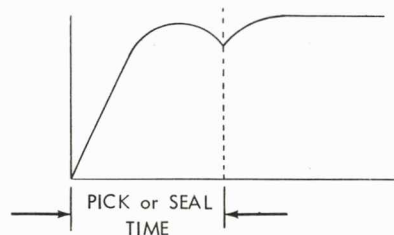

FIGURE 13. Waveform of Magnet Pick Time
1. Check the pick times of all magnets by observing (on an oscilloscope) the voltage rise across a 10-ohm, 1/2 watt resistor (part 321271) in series with the individual magnet coils, when a 48-volt pulse is applied to the coil. All pick times must be ten milliseconds or less, with the exception of U.C. shift magnet, red ribbon shift magnet and the keyboard-lock solenoid. The U.C. shift magnet and red ribbon shift magnet armatures must seal within 12 milliseconds maximum and the keyboard lock solenoid must pick in a maximum of 55 milliseconds. See Figure 13 for wave form of magnet pick time.